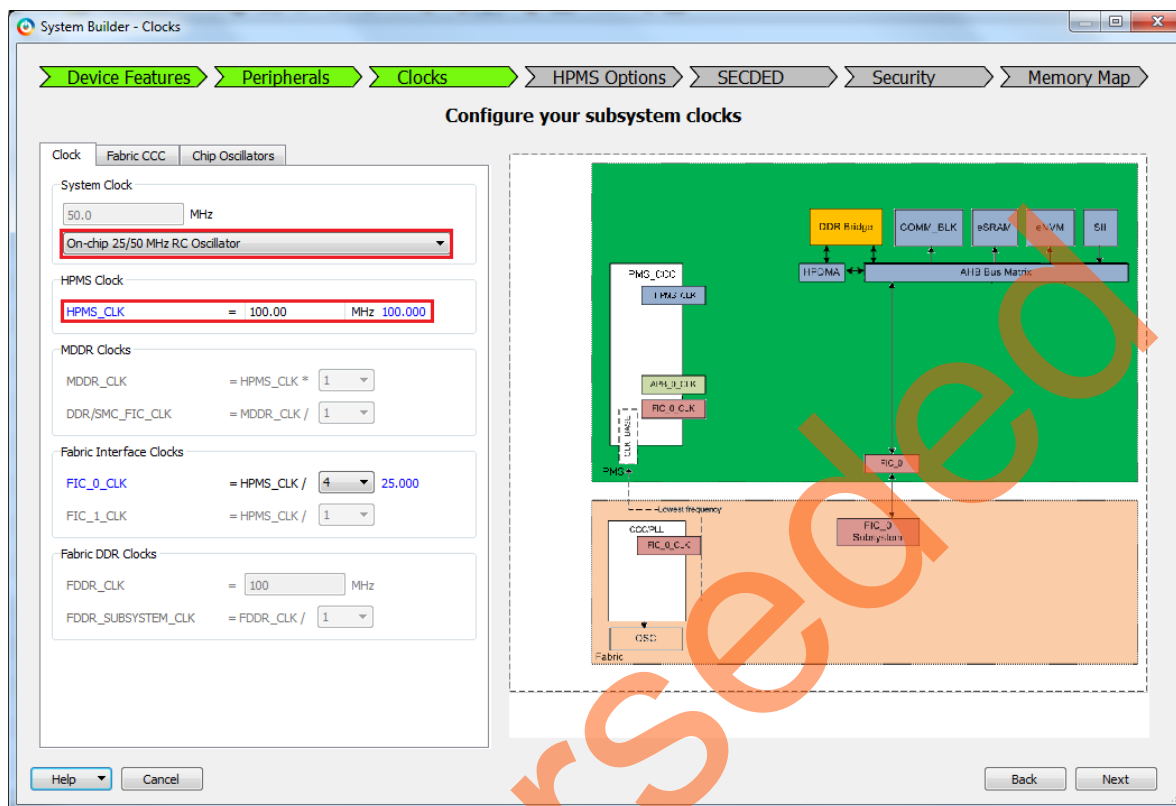

Figure 7 • System Builder – Clocks Page
11. Click **Next**. The **System Builder – Clock** page is displayed, as shown in Figure 7. Select **System Clock** source as **On-chip 25/50 MHz RC Oscillator** and **HPMS_CLK** as **100 MHz**.